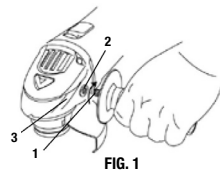

FIG. 1
2. Install the side handle (1) by screwing it clockwise into the left side (2) of the gear housing (#3 in Fig. 1).